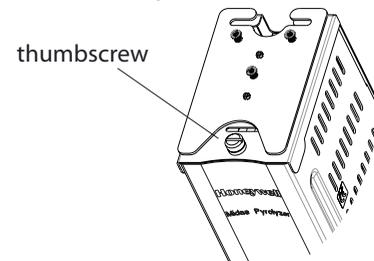

Figure 7: Loosening the thumbscrew
1. Loosen the thumbscrew on the top of the unit as shown in Figure 7.